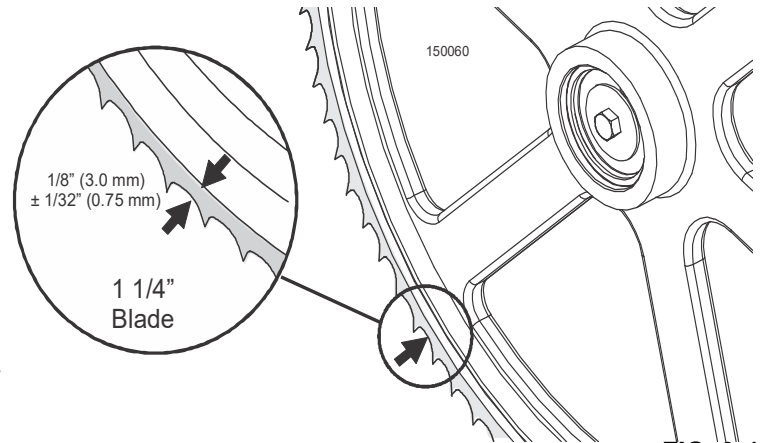

FIG. 9-14
8. If necessary, adjust the drive-side blade wheel to position the blade as shown in Figure 9-14.